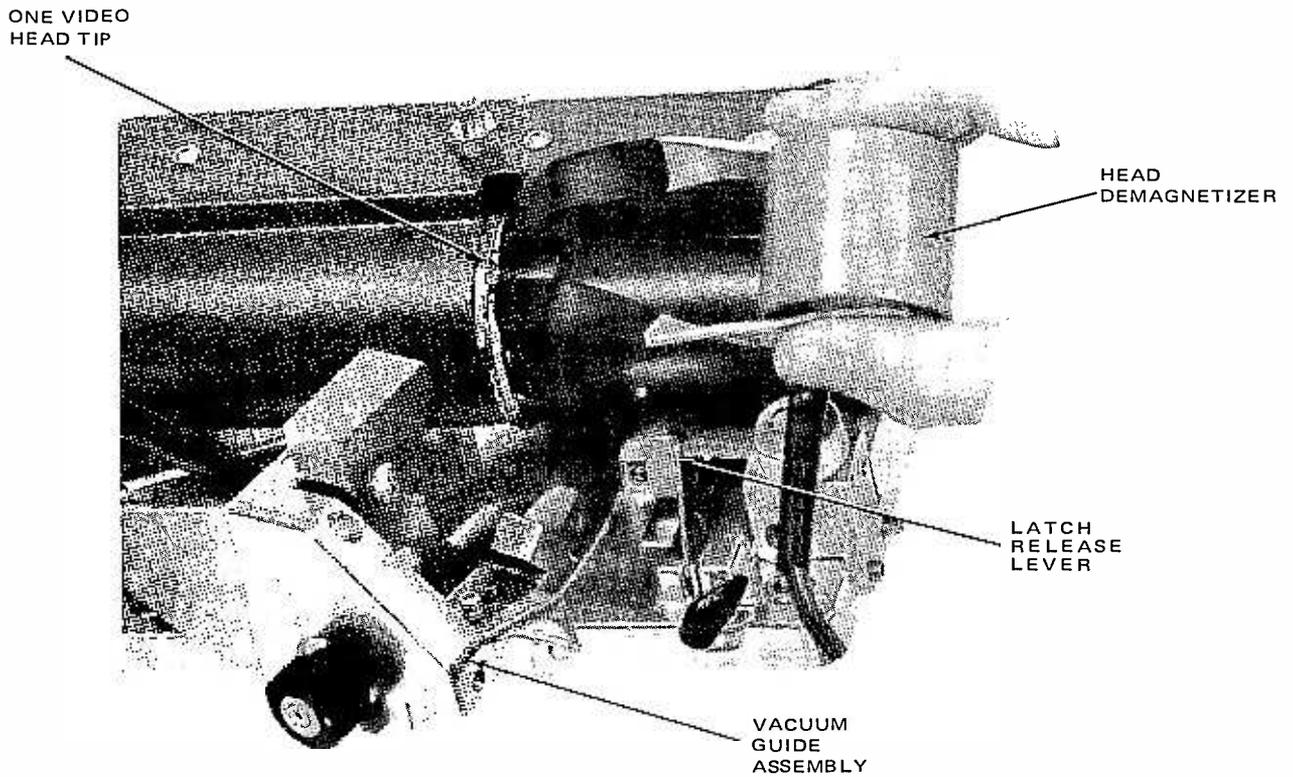

Figure 3-5. Degaussing a Video Head Tip
6. Move the demagnetizer slowly and evenly toward the exposed video head tip. Straddle the head gap with demagnetizer pole tips allowing them to touch the head tips lightly (see Figure 3-5).